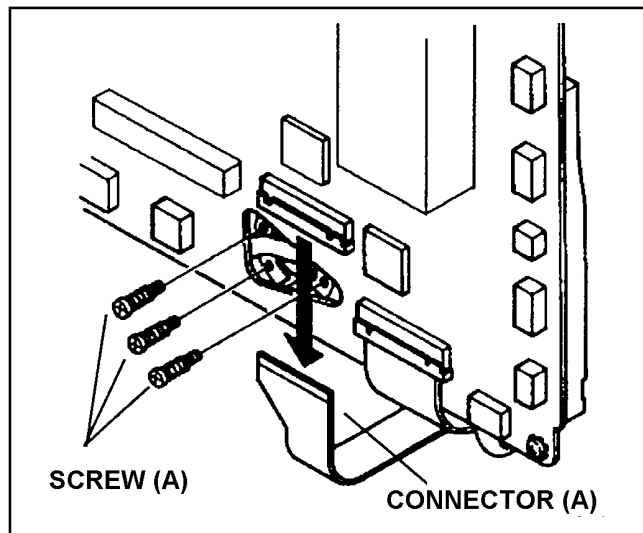
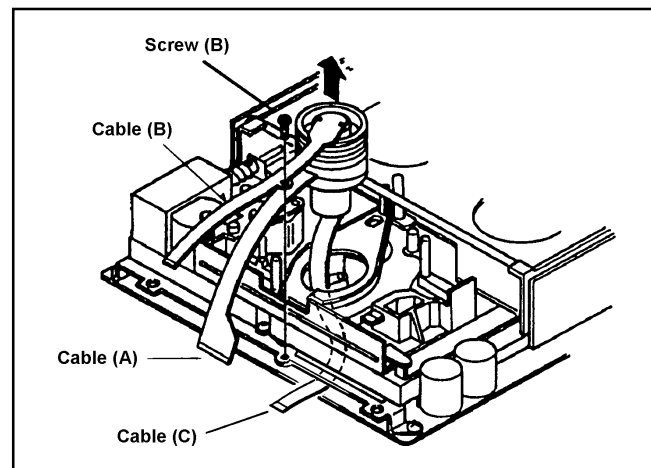

Figure 5-1-1
Figure 5-1-2
2. Unscrew the screw (B) which fix the cable (B) as shown in Figure 5-1-2.
3. Remove the flexible cable which connected to connector (A) on the P.C. Board as shown in 5-1-1.
4. Unscrew the 3 screws (A) which have spring from the Cylinder Unit as shown as Figure 5-1-1, then remove the Cylinder Unit without touching any mechanical parts as shown in Figure 5-1-2.